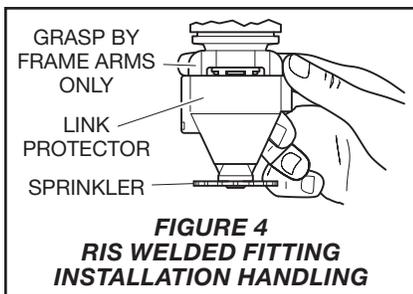
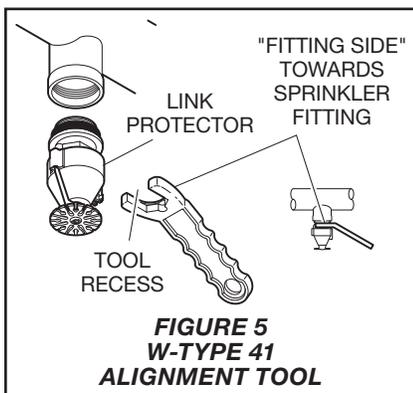
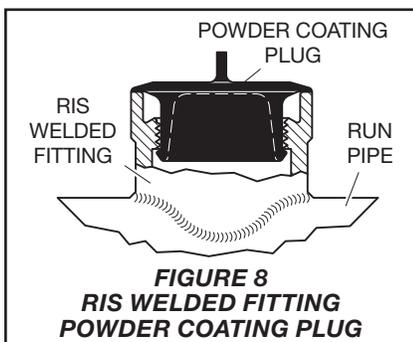
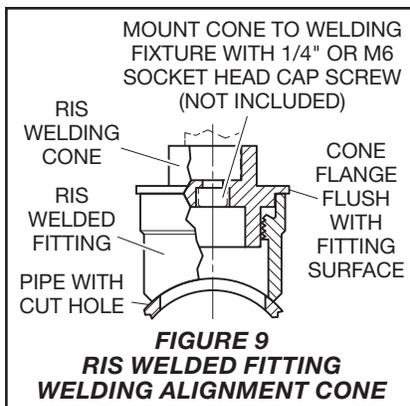

FIGURE 4
FIGURE 5
FIGURE 8
FIGURE 9
- To avoid damaging the fusible link assembly during installation, ensure the factory-assembled link protector remains attached to the sprinkler, and handle the sprinkler by the frame arms only as shown in Figure 4. Use only the appropriate sprinkler alignment tool as shown in Figure 5.
- Align the RIS fitting and pipe during automatic welding practices with a RIS fitting welding alignment cone as shown in Figure 9.
- As finishing processes can vary, when planning painting or powder coating pipe with RIS welded fittings installed, it is recommended that operators use their own established best methods to protect critical fitting areas such as the mating surface and interior features. One option is to use the separately ordered powder coating plug, see Figure 8. The plug is made from silicone rubber formulated for a maximum temperature
(Optional) Use the alignment tool as shown in Figure 5 for more leverage.
| 03-23 | Page 6, Installation section, end of General Instructions sub-section, added finishing process bullet point recommending use of separately ordered powder coating plug; Installation section, Installing the Sprinkler sub-section, relocated demonstration video QR code to end of procedure, formerly on page 7 as Figure 4; Page 7, updated Figure numbers; Added Figure 8, RIS welded fitting powder coating plug application; Added Figure 9, RIS welded fitting welding alignment cone application; Ordering Procedure, added RIS Welded Fitting Powder Coating Plug sub-section. |